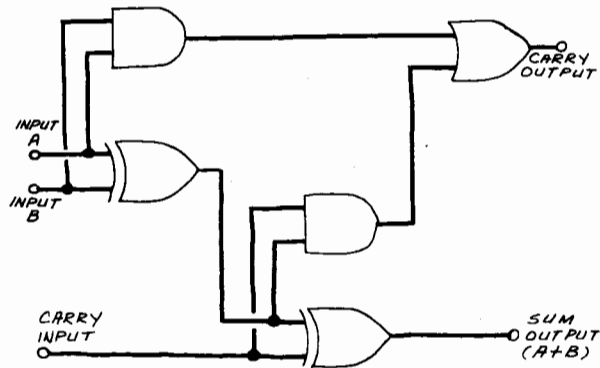

Fig. 5. Logic diagram of a binary full adder.
**Serial Addition.** A binary full adder is a straightforward combinational circuit made from two exclusive-OR gates and several additional gates connected as shown in Fig. 5. The circuit is called a full adder since it can both accept and generate carry bits.